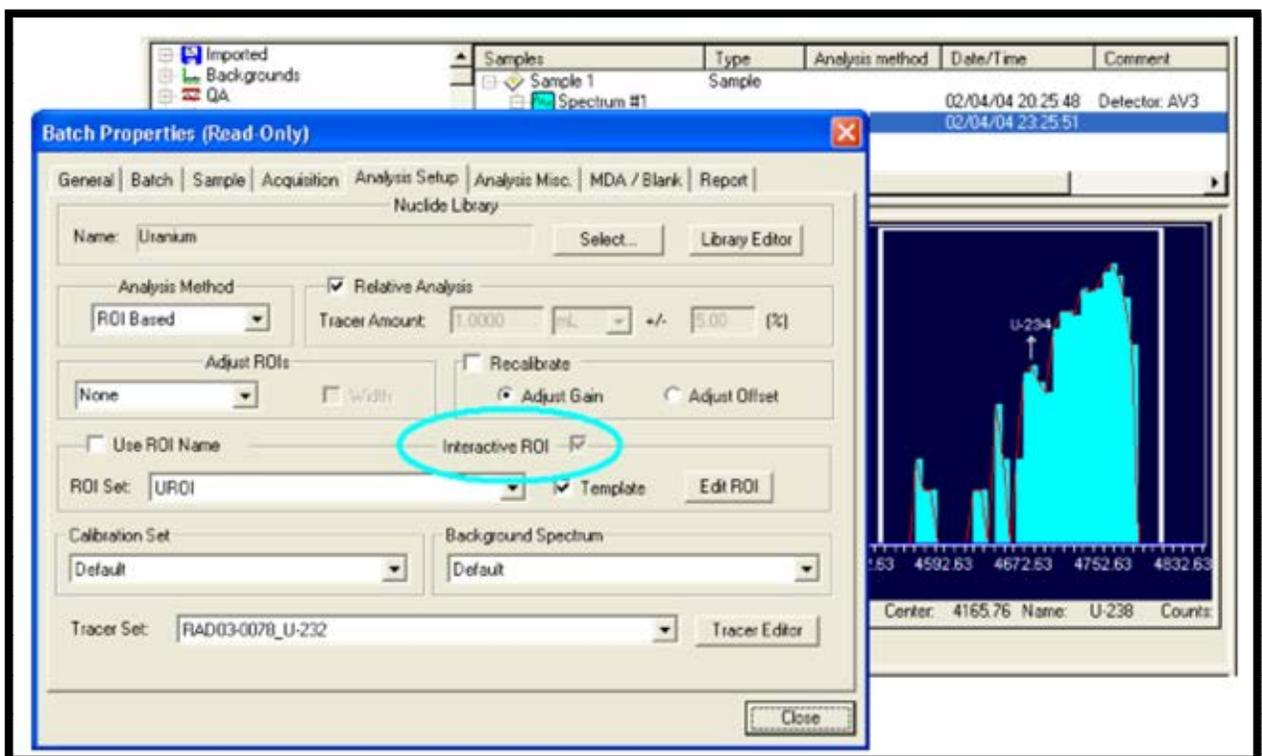

Figure 142. Analysis Properties for This Sample (Note Interactive ROI Checkbox is Now Marked and Recalibrate and Adjust ROI Width are Turned Off)
- Right-click the Analysis entry and select **Properties** from the right-mouse-button menu. The Batch Properties dialog will show a checkmark in the disabled/gray **Interactive ROI** checkbox (Figure 142).